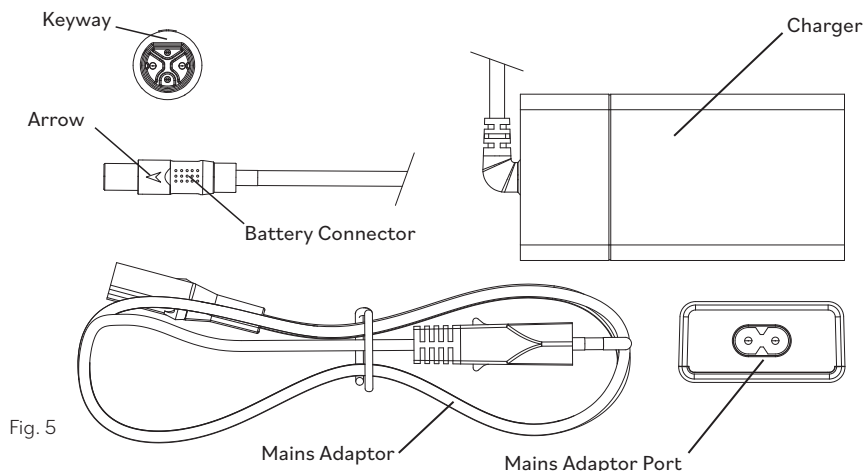

Fig. 5
1. Plug mains adaptor into the charger (fig. 5).
2. Plug mains adaptor into wall socket (fig. 5).
4. Before storing, remove the mains adapter from the charger (fig.5).
Place the battery and charger onto a level surface, where they cannot be knocked or damaged and which is non-flammable. Connect the mains adaptor to the port on the charger (fig. 5) you should use a mains adaptor appropriate to the country you are in.
The battery connector cable has a keyway (fig. 5) which must be lined up to the corresponding feature at the bottom of the connector port on the battery. Correctly orientate the keyway and firmly but carefully push the connector onto the battery.